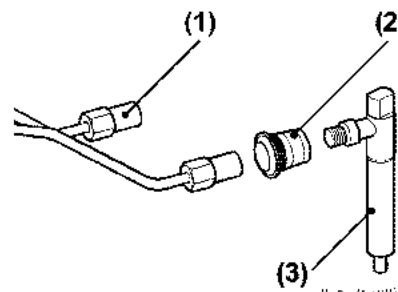

**Figure 5-37**
- (a) Remove the pipe seals from rocker arm cover. Insert a flat-bladed screwdriver into the slotted part of the rocker arm cover and remove it. Remove the rocker arm cover after removing the pipe seals (Figure 5-37).